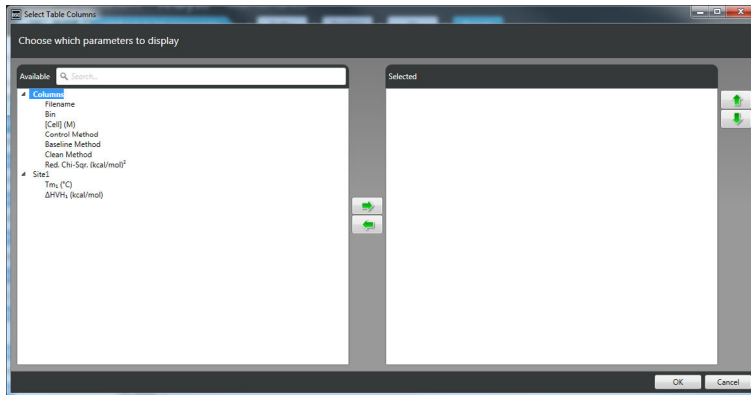

Figure 6.9 Select Table Columns window
1. Click , then **Select Parameters** to open the **Select Table Columns** window (Figure 6.9).